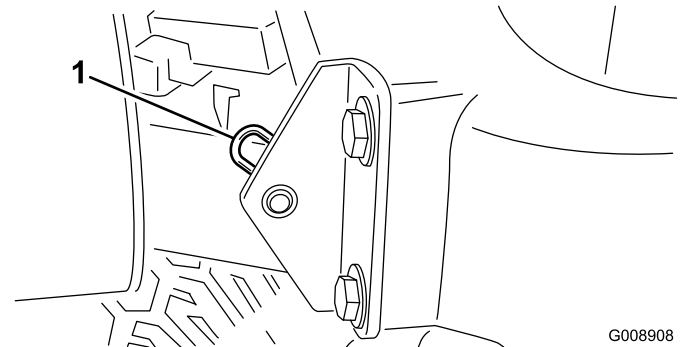

Figure 46
- Remove the hairpin cotter securing the hood pivot to the mounting brackets (Figure 46).